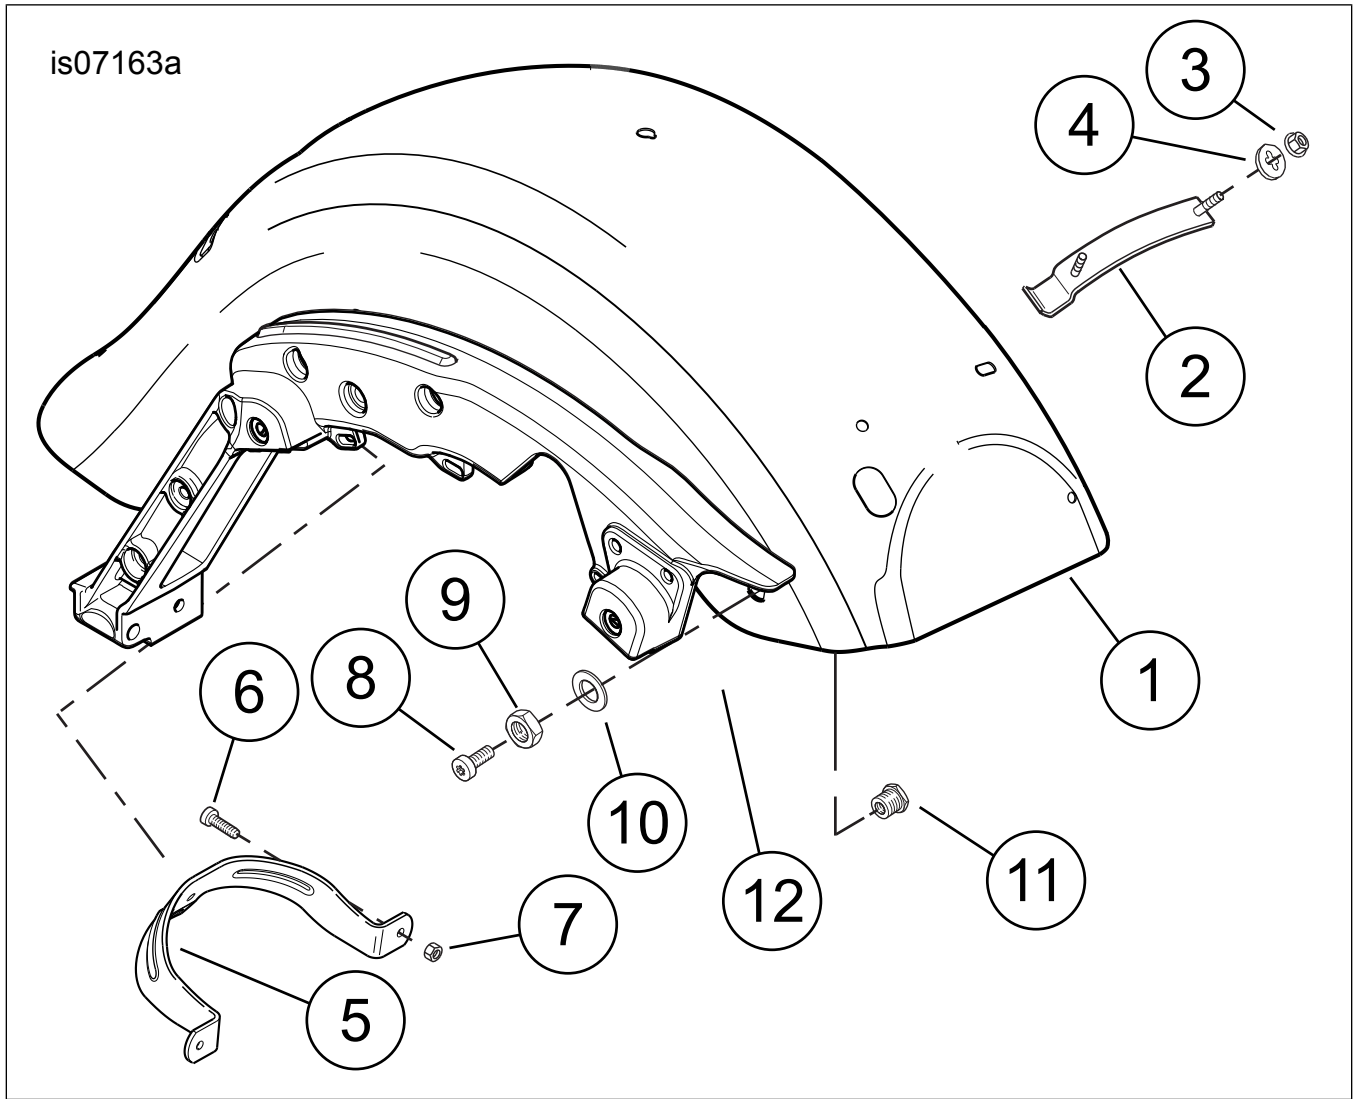

Figure 3. Wiring Diagram, Audio Harness 69200321
3. If there is currently a harness connected to the six-way vehicle interconnect harness socket housing [6B] and the 35-way receptacle [28A] on the back of the radio, disconnect and remove that harness from the vehicle. See Figure 3 and Table 1, Item 1. Plug the black six-way audio harness pin housing [6A] (labeled "CONNECTOR 6") from the **new** audio harness into the vehicle interconnect harness socket housing [6B].
4. See Figure 3 and Table 1. Plug the two-way connector [35FB] (2) into the left fairing speaker. Plug the two-way connector [35TB] (4) into the left tweeter.
5. Plug the 16-way Molex socket housing [149B] (8) into the front amplifier.